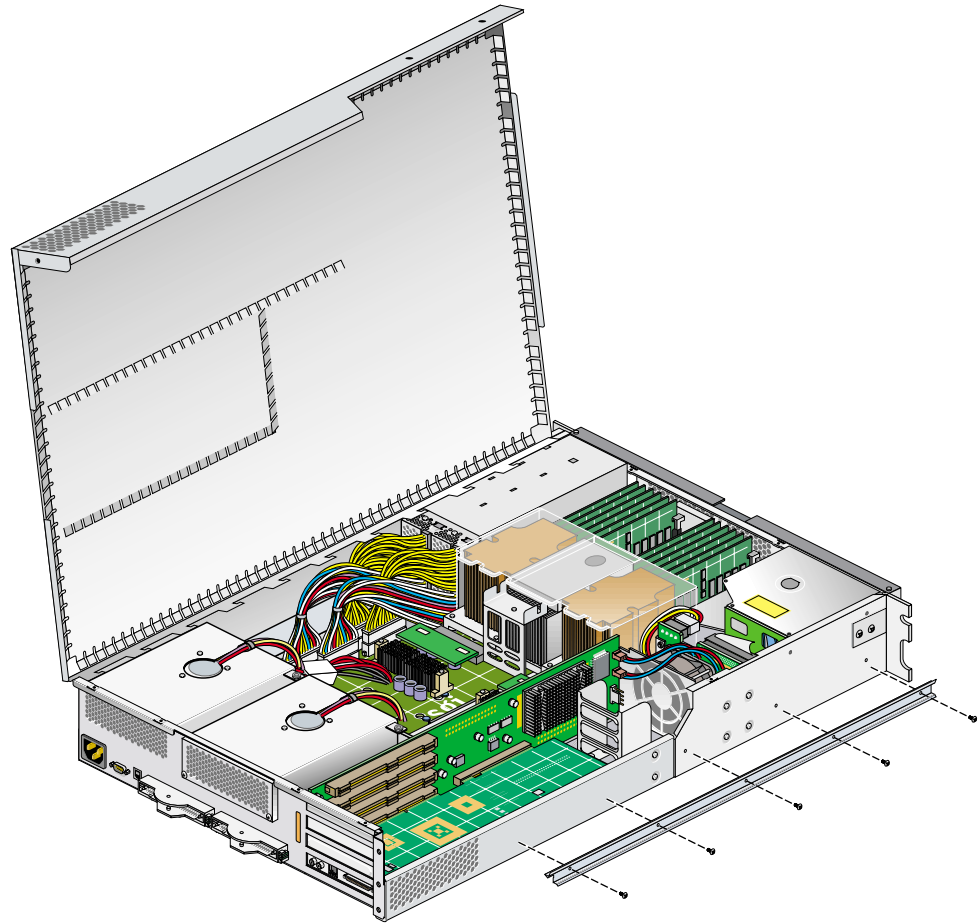

Figure 4-4 Removing an Optional Chassis Rail
8. If you are installing a card in one of the two bottommost card slots, you also need to remove the optional chassis rail by unscrewing the five Phillips screws, as shown in Figure 4-4. (If you are not installing a card into one of the bottom-most card slots or your module is not slide-rail mounted, proceed to step 9.)